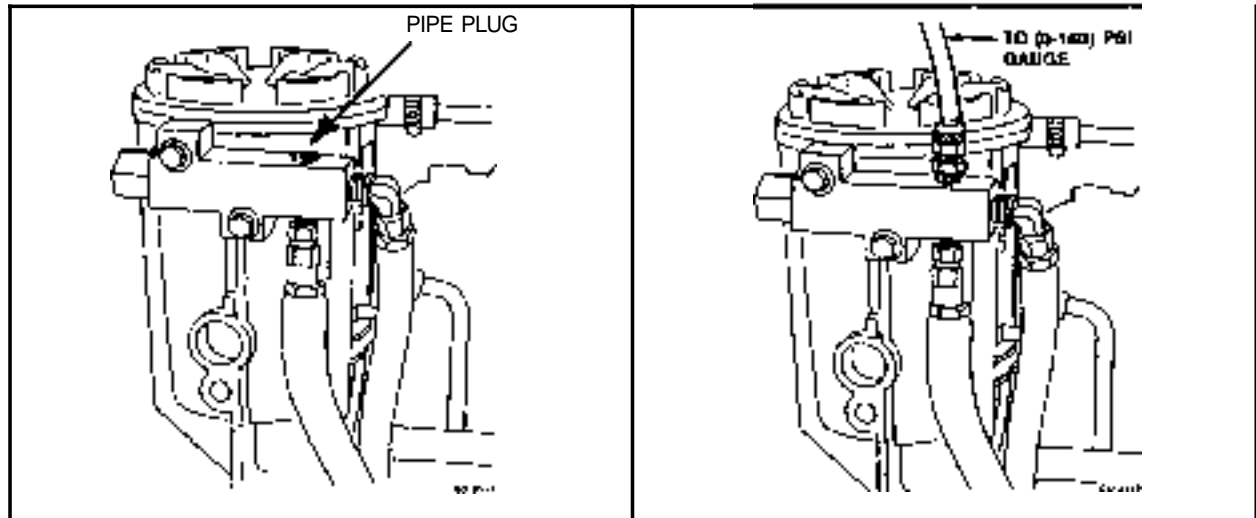

Figure 2.3-11. - Fuel Pressure Tap Location
1. Remove 1/8" pipe plug located on the fuel regu.. Jatar block. (Figure 2.3-11.) Install 1/8 inch (3 mm) pipe fitting in place of the pipe plug.
2. Connect a line (Figure 2.3-11.) from the fitting to the 0-160 PSI gauge of the Model D-200 Pressure Test Kit (ZTSE-2239). Start engine